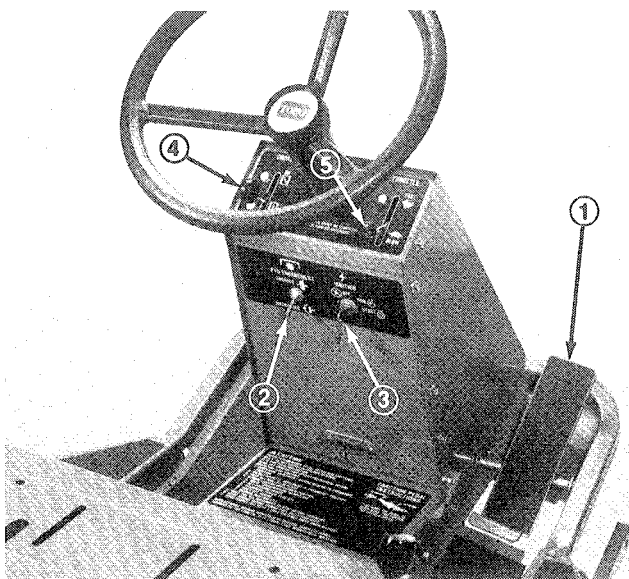

Figure 11
**Traction Pedal** (Fig. 11) — Traction pedal has two functions: one is to make the machine move forward, the other is to make it move rearward. Using the heel and toe of the right foot, depress top of pedal to move forward and bottom of pedal to move rearward. Ground speed is proportionate to how far pedal is depressed. For maximum ground
**PTO Switch** (Fig. 11) — The PTO switch has two positions: ENGAGE and DISENGAGE. Toggle switch releases blade brake and engages electromagnetic clutch to drive deck pulleys.
**Ignition Switch** (Fig. 11) — The ignition switch, which is used to start and stop the engine, has three positions: OFF, RUN and START. Rotate key clockwise — START position — to engage starter motor. Release key when engine starts. The key will move automatically to the ON position. To shut engine off, rotate key counterclockwise to the OFF position.
**Choke** (Fig. 11) — To start a cold engine, close carburetor choke by moving choke control forward to the ON position. After engine starts, regulate choke to keep engine running smoothly. As soon as possible, open the choke by pulling it rearward to the OFF position. A warm engine requires little or no choking.
**Throttle** (Fig. 11) — Throttle is used to operate engine at various speeds. Moving throttle forward increases engine speed — FAST; rearward decreases engine speed — SLOW. The throttle control, in conjunction with traction pedal, controls ground speed of the machine.